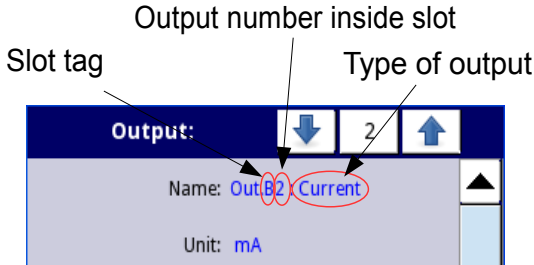

Fig. 7.82. Description of **Name** parameter in **Built-in outputs** menu
- **Name** - each output already has a name given by the device and the user cannot change it, for the description of the **Name** parameter see **Fig. 7.82**,
- **Name** – each output already has a name given by the device and the user cannot change it - see **Fig. 7.82**,
- **Name** – each output already has a name given by the device and the user cannot change it - see Fig. 7.82,